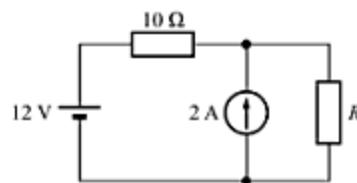

Fig. 3.65
6. For the circuit shown in Fig. 3.65, determine the current in the 10Ω resistor for $R = 6\Omega$, using node-voltage analysis.